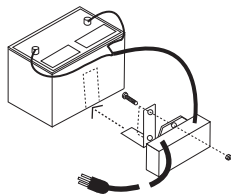

Figure 1. **Charger Mounting**
1. Fasten the supplied mounting bracket to the charger with the provided hardware as illustrated in Figure 1.